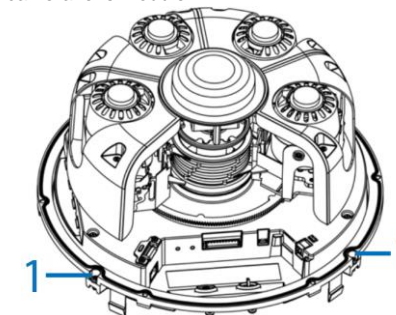

Figure 3
2. Use the T20 Torx wrench to remove the two screws (1) (Figure 3) on the camera lens module and remove the mounting plate (3) (Figure 2) from the camera lens module.